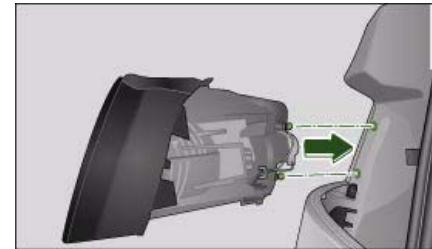

Fig. 255 Installing rear light
- Insert the rear light into the rear light carrier ⇒ fig. 255.